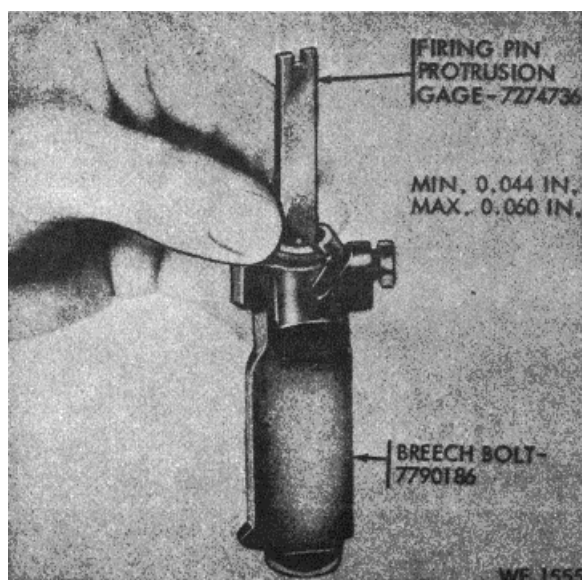

Figure 7-1. Gaging firing pin protrusion.
b. Inspect firing pin protrusion with gage (fig 7-1) to determine the serviceability of the firing pin. Refer to chapter 11 for serviceability standards.